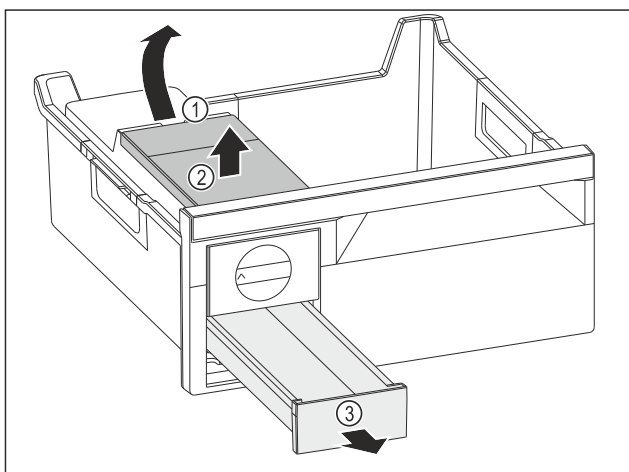

Fig. 164
- ▶ Removing the water tank: Lift the water tank at the recess Fig. 164 (1).
- ▶ Remove the water tank Fig. 164 (2) upwards.
- ▶ Remove the ice cube tray Fig. 164 (3) from the front.